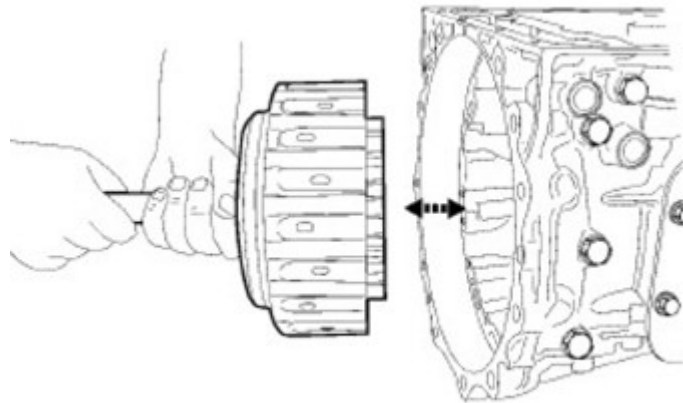

Fig. 6
9. Remove the input shaft assembly with the K1 and K2 clutch assemblies attached (Fig. 6) .
22. Install the K2 clutch assembly and the K1 clutch/input shaft assembly into the transmission case (Fig. 6) .